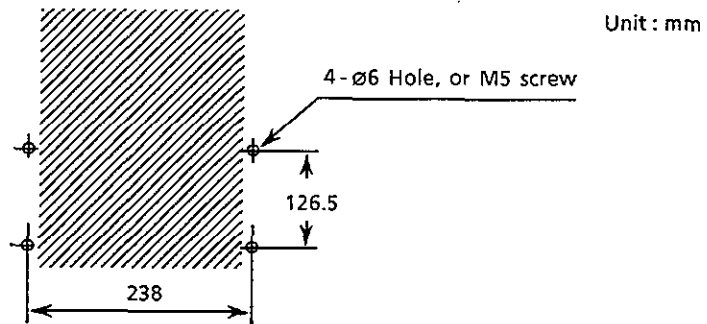

Figure 3.8 Drilling Mounting Holes
- (1) Drill the mounting holes through the wall as shown in Figure 3.8.